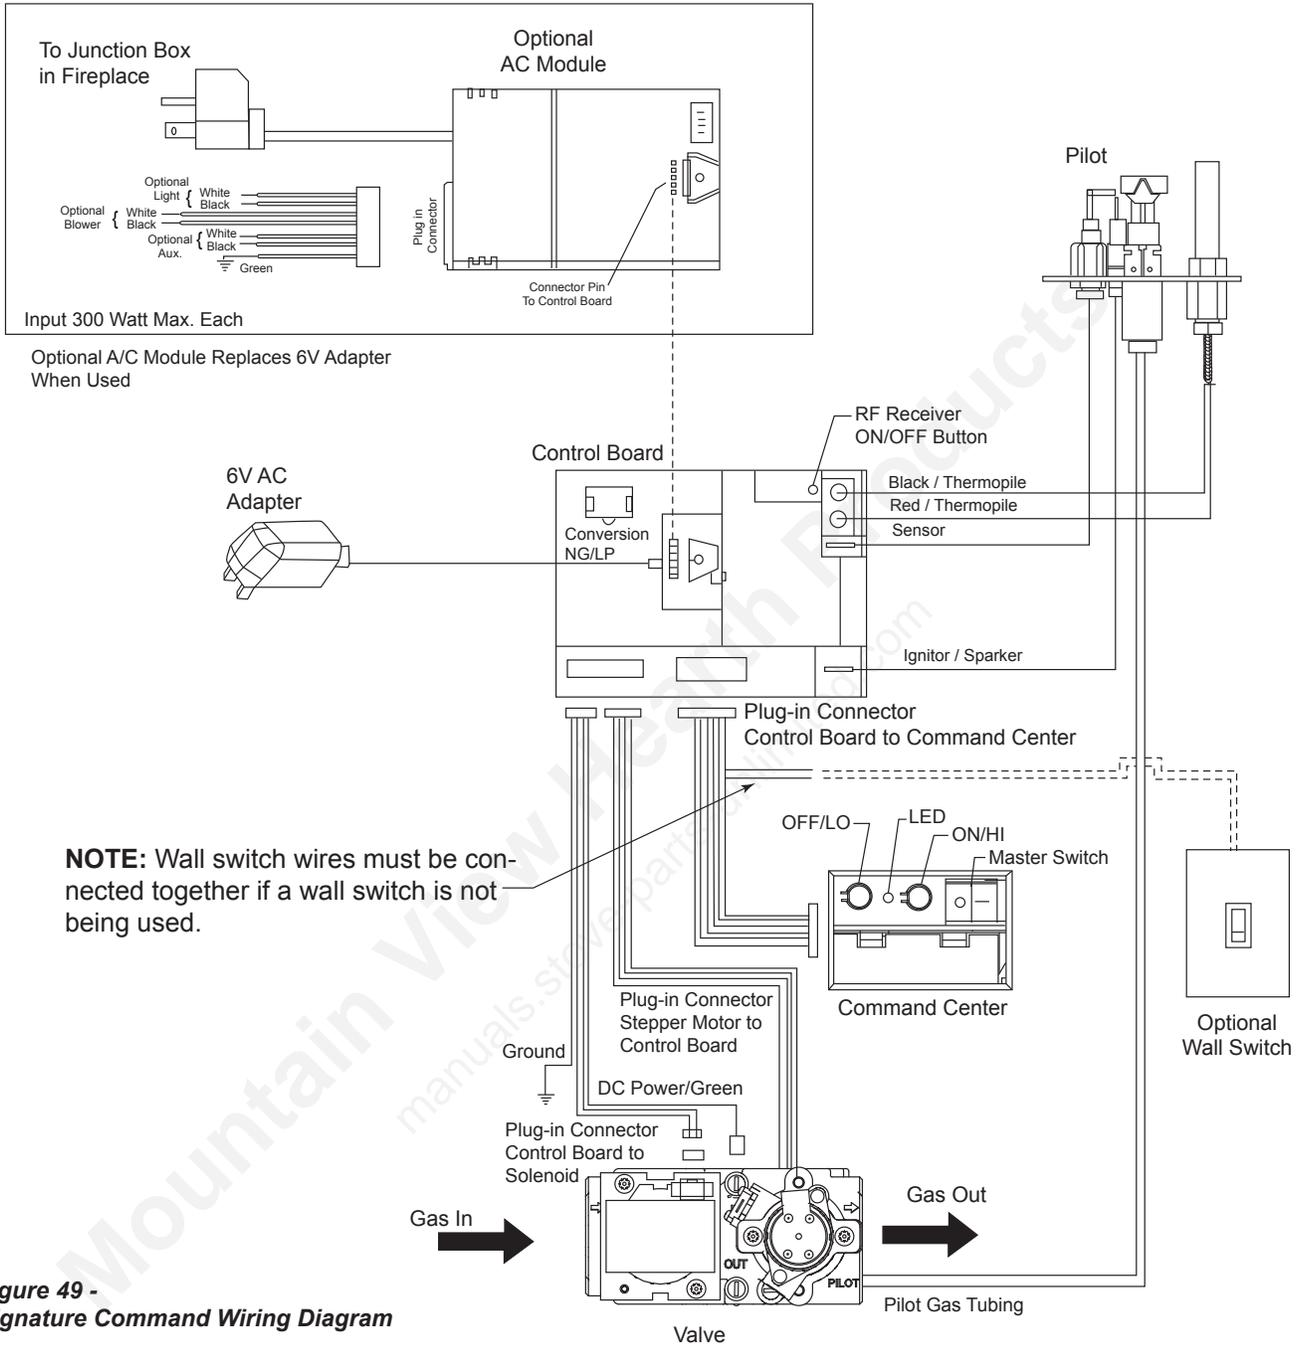

Figure 49 - Signature Command Wiring Diagram
The wall switch wire connection is located off the 2 ft. wire harness from the control box to the command center. *Figure 49*. The connection is labeled "Wall Switch". Unplug the male and female connectors and connect the two (2) low voltage wires provided. Run wire to desired location on wall. Up to 50 ft. of 18 ga. wire may be used if necessary. Attach wires to wall switch. Mount the wall switch in to junction box and screw on cover.